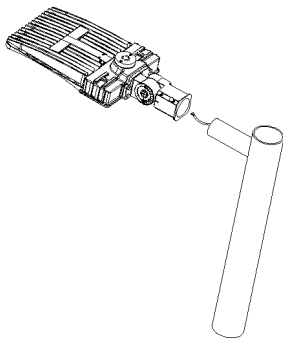

Fig 1.
2. Feed wiring from new ST series fixtures slip-fitter to inside of mounting pole and push new fixture slip-fitter onto Tenon. **See figure 1.**